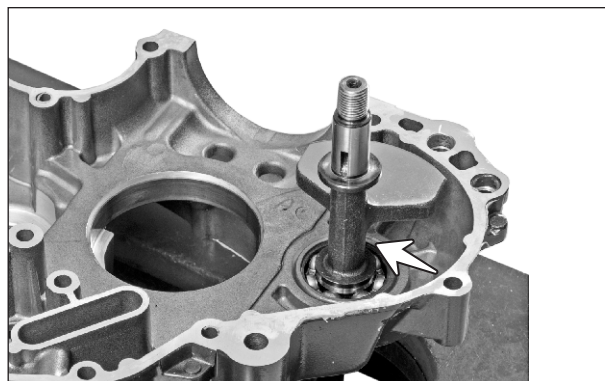

Fig. 3.177
- Assemble the balancer shaft complete as an assembly in the crankcase assembly LH. (Fig. 3.177)